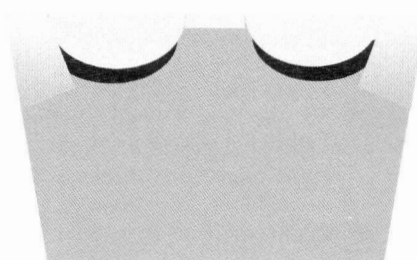
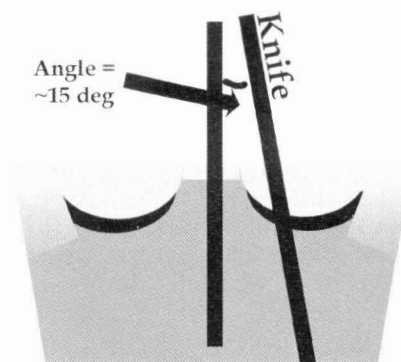

Figure 6
Figure 7
- a. For the region indicated in black in Figure 6 (sometimes known as the “B” and “C” regions of the reed), the “bump” or “shelf” can be scraped off with the flat part of a knife. The knife should be placed at approximately a fifteen degree angle with the spine along the yaw axis (this is the axis that is parallel with the reed blade – see Figure 7). Along the axis that is perpendicular to the reed surface, or the pitch axis, the knife should be placed at the angle that is desired for the finished reed. This angle will cause the knife to come into contact with the shelf in the black area of Figure 6 before it contacts the tip or the channel of the blade (see Figure 8). For this step, it is important to look for where the shavings are being produced. When the shavings are produced evenly from behind the black area of Figure 6 to the tip, all bumps were removed successfully.